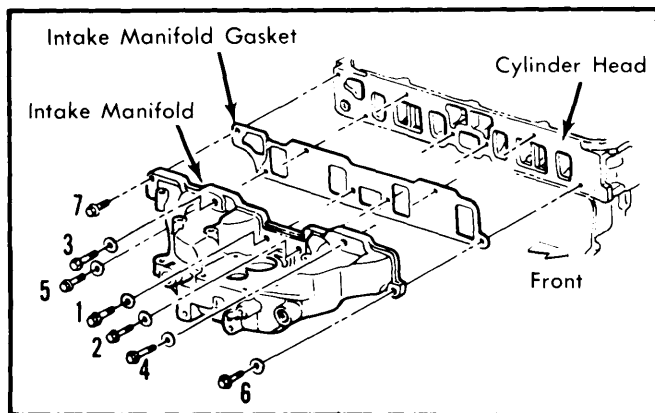

Fig. 1 Intake Manifold Tightening Sequence
2) Torque manifold-to-cylinder head bolts using torque sequence shown in Fig. 1. Reverse removal procedure to complete installation.